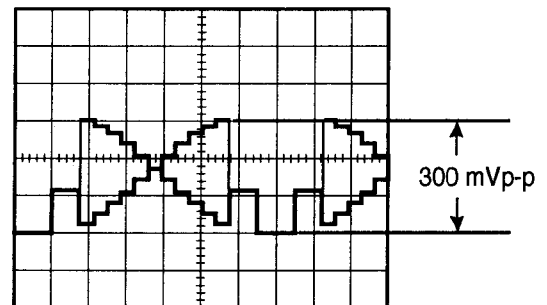

Fig. 5-32
- Confirm that the Video signal becomes 700 ± 50 mV as shown in Fig. 5-32.
- If not, adjust data with the **ARROW** keys so that the Video signal level becomes 700 ± 50 mV as shown in Fig. 5-32.